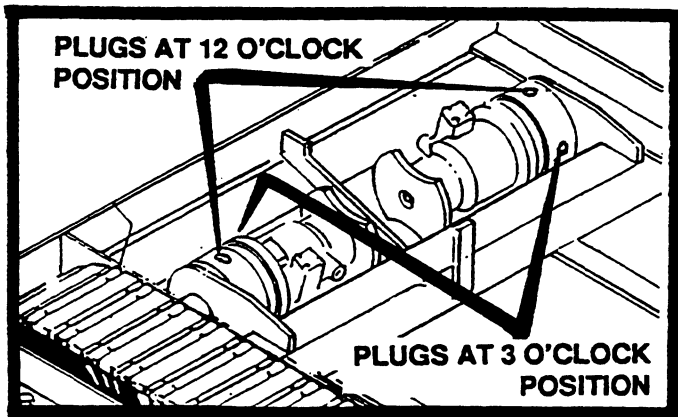

FIGURE 34
2. Check oil level in the torque hub by removing the plug at the 3 o'clock position. If oil comes out no oil is needed, insert plug and tighten. If oil does not come out, remove the plug at the 12 o'clock position and fill torque hub with **90 wt. gear oil** until oil starts to appear at the other hole. Replace both plugs and repeat process to other torque hub. See figure 34.